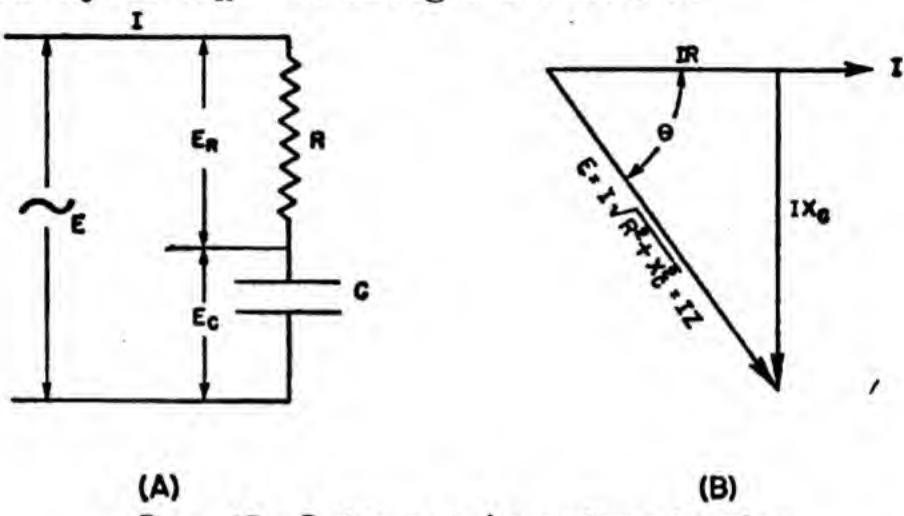

Figure 65.—Resistance and capacitance in series.
In figure 65 (A), you have the diagram of a circuit containing both resistance, R , and capacitance, C , in series. An a-c voltage E is connected across this
Look at the vector diagram for this circuit in figure 65 (B). It's a triangle vector diagram for a change, not a parallelogram. Current I flows through the resistance and the condenser. So you lay off I as a vector arrow to a convenient length, and horizontally. You remember that the voltage, E_R , through a resistor is IN PHASE with the current. So you lay off $E_R = IR$ along the vector I .